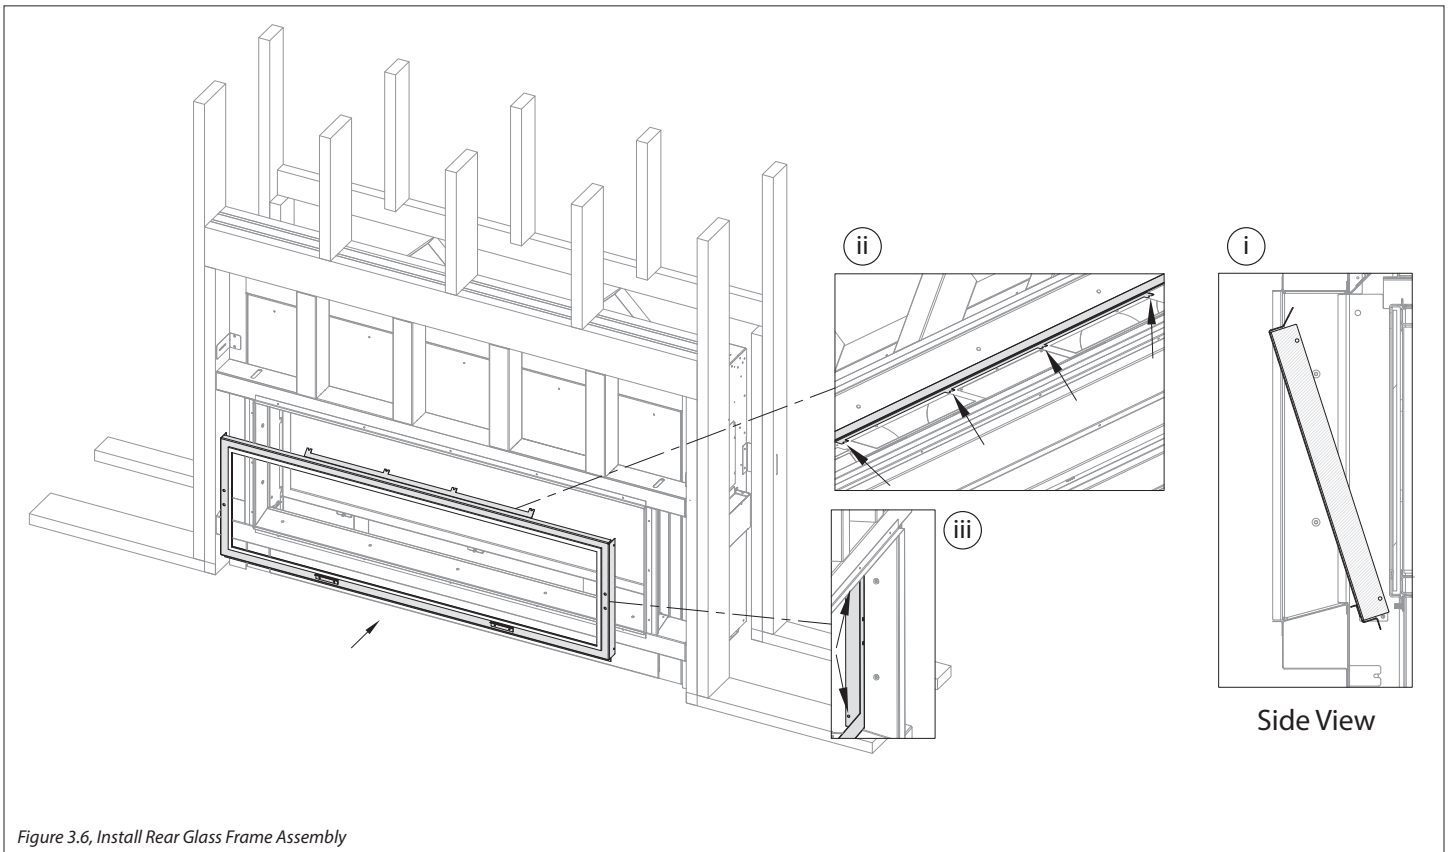

Figure 3.6, Install Rear Glass Frame Assembly
- Before installing the rear glass frame assembly (D), it may be necessary to clean the appliance fixed/back side glass frame assembly and the glass pane (F). It will be very difficult to clean glass after these steps. Clean glass window with a suitable fireplace glass cleaner using a soft cloth. Abrasive cleaners must not be used. Be careful not to scratch the glass when cleaning.
1. Angle the rear glass frame assembly (D) to fit through the opening, as shown in (i) in Figure 3.6. Rotate the rear glass frame assembly back to vertical position.
2. Align the holes in the tabs on the top of the rear glass frame assembly with the holes in the heat shield inside the appliance, as shown in (ii) in Figure 3.6 below. Secure with (4) sheet metal screws.
3. Align the holes in the rear glass frame assembly sides to the mounting nuts in fireplace metal cabinet. Secure with included (4) truss head screws as shown in (iii) in Figure 3.6 below.